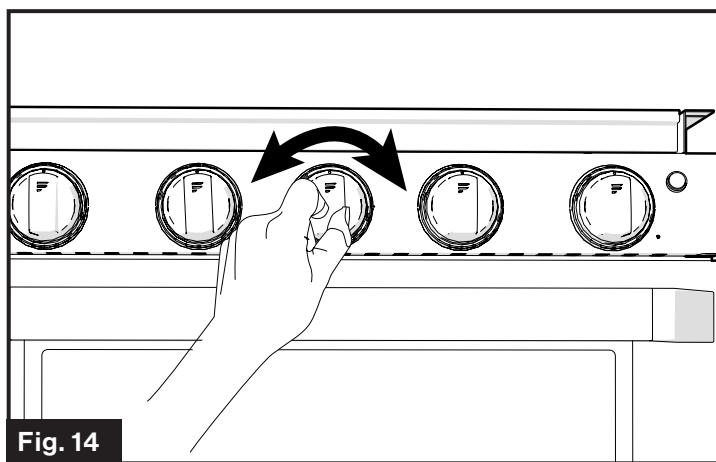

Fig. 14
4. Rotate the burner control knob to adjust the flame to desired level. (Fig. 14)